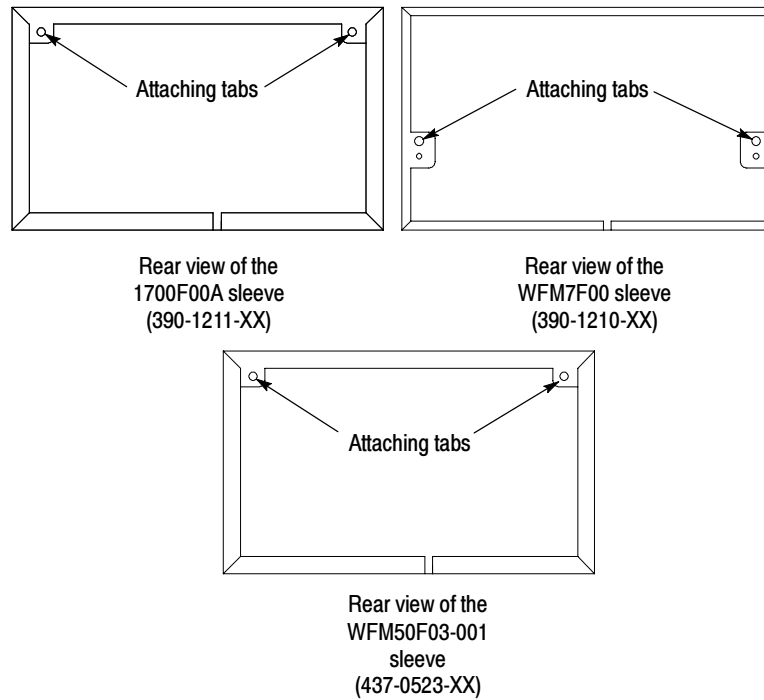

Figure 6: Rear view of three sleeves, showing the attaching tabs and screws
1. Referring to Figure 6, choose the appropriate sleeve in which to install your instrument:
- For the WFM7F00 and WFM50F03-001, insert the screws through the rack adapter, through the tabs on the sleeve (Figure 6), and then into the instrument rear panel.
- For the 1700F00A, insert the screws through the holes on the top right and left of the sleeve (Figure 6) and into the instrument rear panel. The